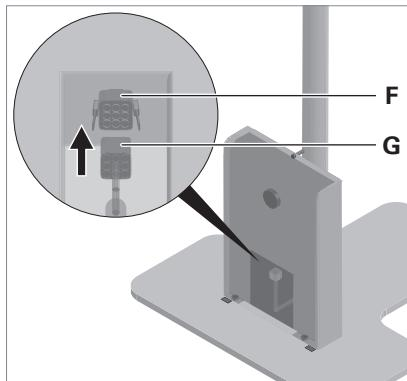

Fig. 4: Connecting the supply unit.
- Plug the plug **G** into the socket **F**, see Fig. 4.